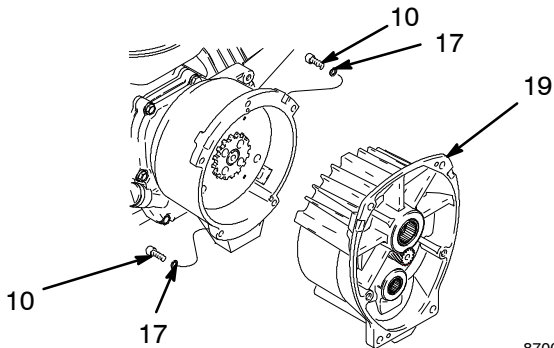
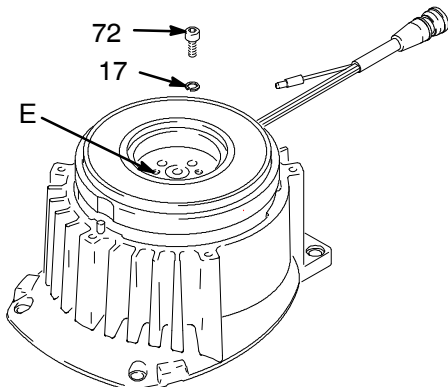
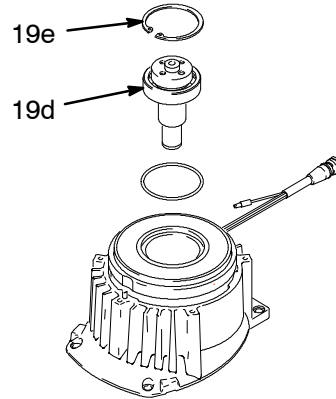

Fig. 2 8700A
Fig. 3 8701A
Fig. 4 8703A
3. Fig. 2. Remove five screws (10) and lockwashers (17) and pinion assembly (19).
4. Fig. 3. Place pinion assembly (19) on bench with rotor side up.
5. Remove four screws (72) and lockwashers (17). Install two screws in threaded holes (E) in rotor. Alternately tighten screws until rotor comes off.
6. Fig. 4. Remove retaining ring (19e).
5. Install four screws (16) and lockwashers (17) with torque of 125 in-lb.
6. Fig. 4. Tap pinion shaft (A) in with plastic mallet.
7. Install retaining ring (Z) with beveled side facing field (Y).
8. Fig. 3. Place pinion assembly on bench with rotor side up.
9. Apply thread sealant to screws. Install four screws (16) and lockwashers (17). Alternately torque screws to 125 in-lb until rotor is secure. Use threaded holes to hold rotor.
10. Fig. 2. Install pinion assembly (19) with five screws (10) and lockwashers (17).